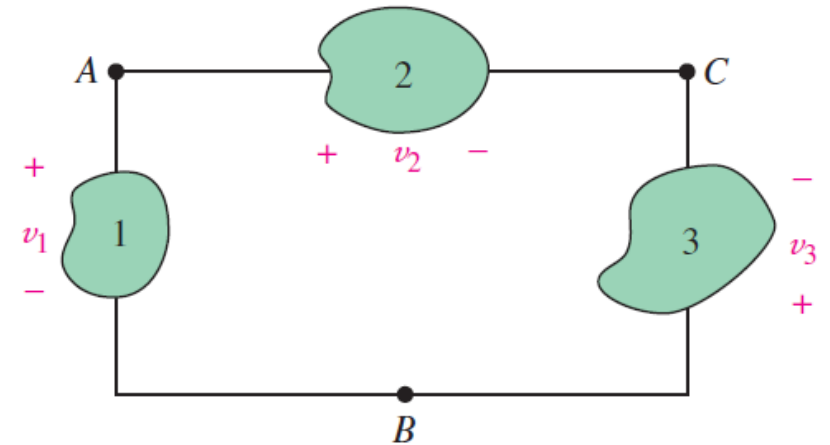

Fig. 7 The potential difference between points A and B is independent of the path selected.
- For the example in Fig. 7, we have